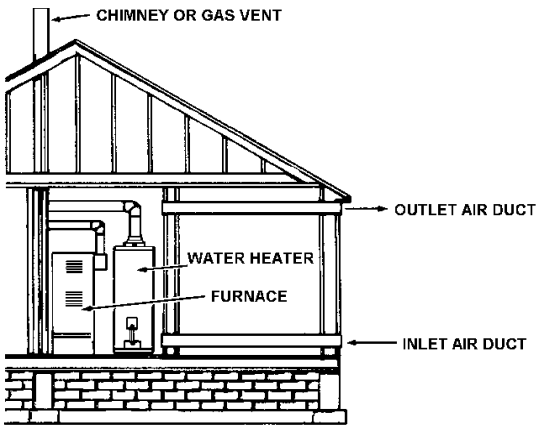

FIGURE 13.
- When communicating with the outdoors through horizontal ducts, each opening shall have a minimum free area of 1 square inch per 2,000 BTU per hour (11 cm²/kW) of total input rating of all equipment in the enclosure. See Figure 13.
- When ducts are used, they shall be of the same cross-sectional area as the free area of the openings to which they connect. The minimum short side dimension of rectangular air ducts shall not be less than 3 inches (7.6 cm). See Figure 13.